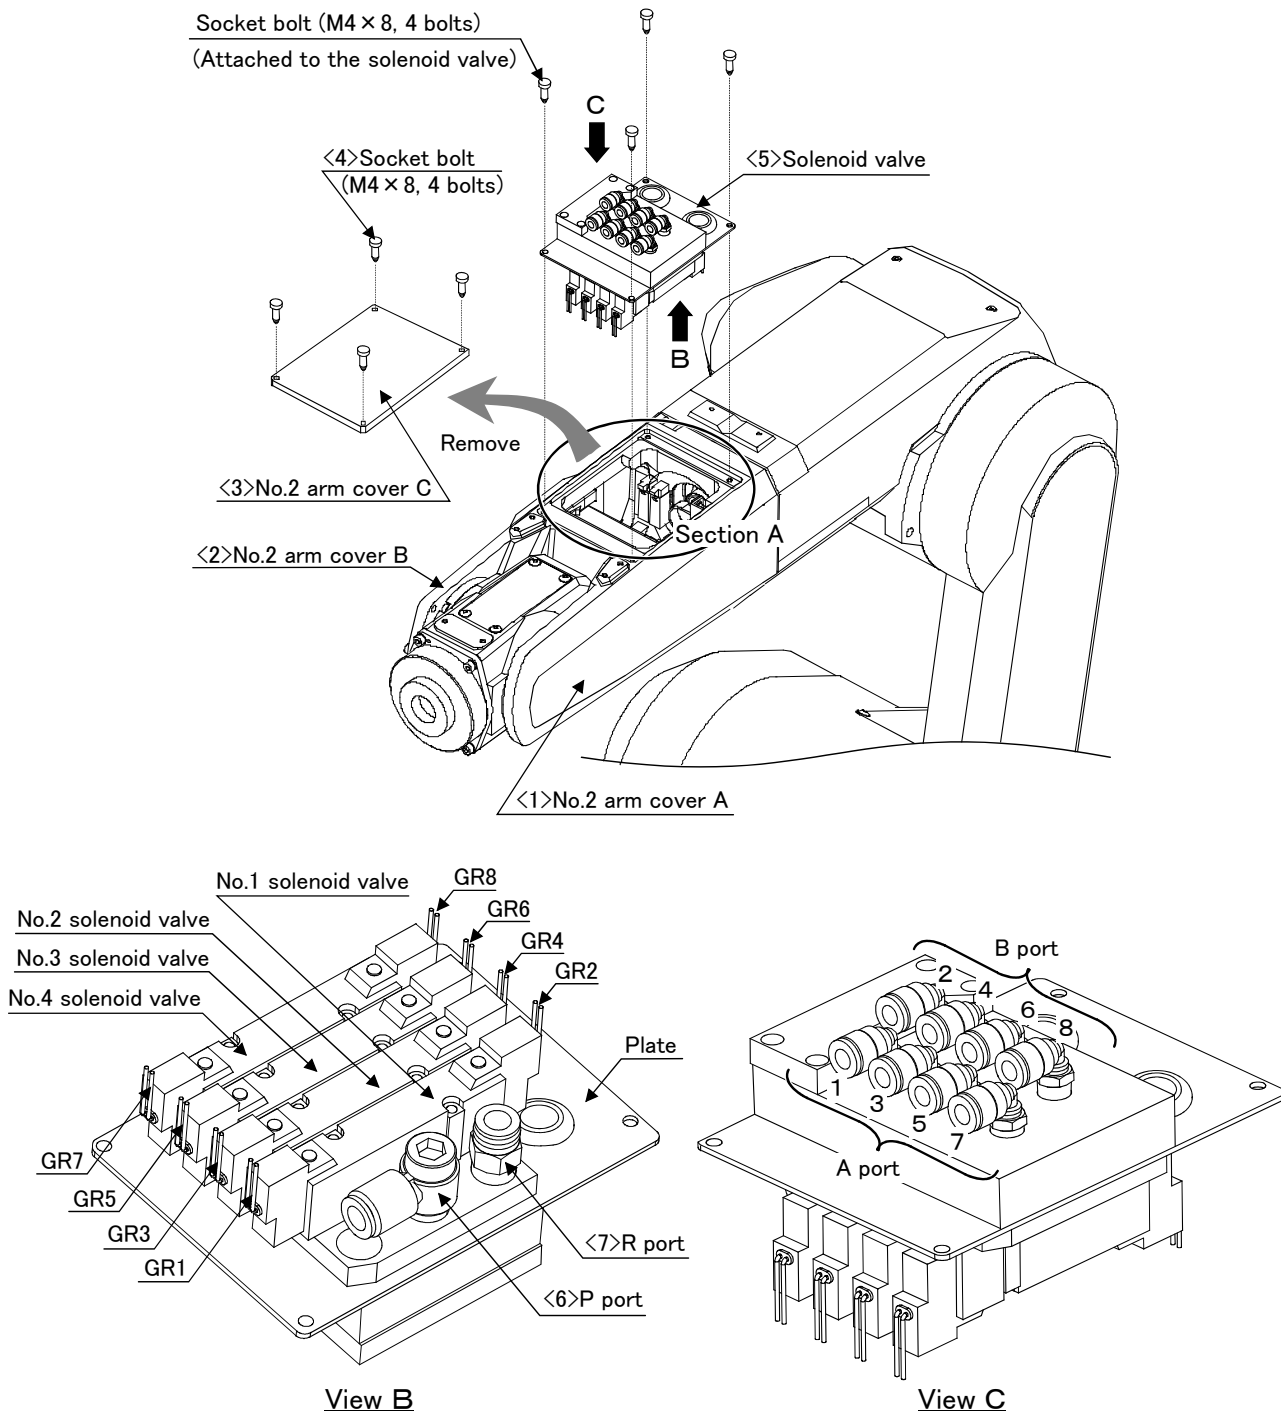
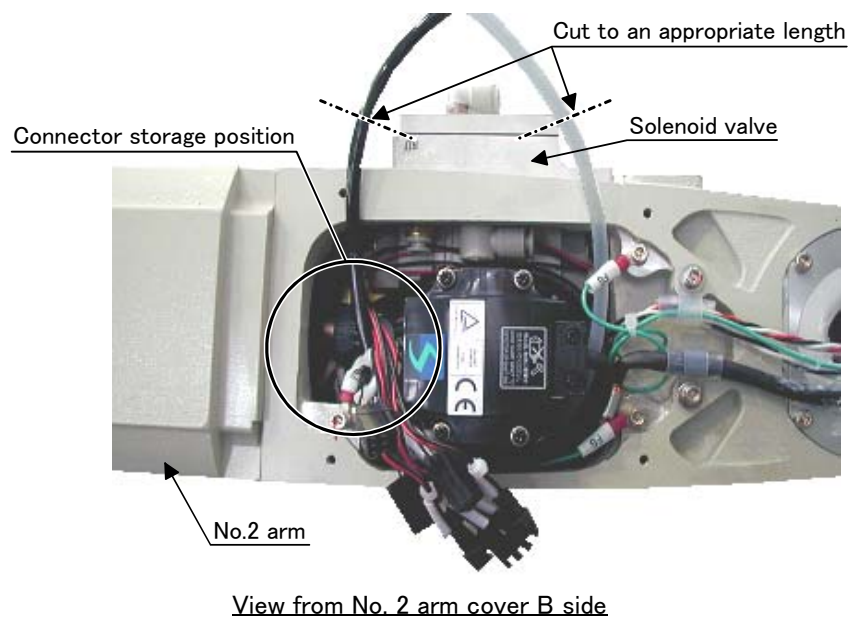
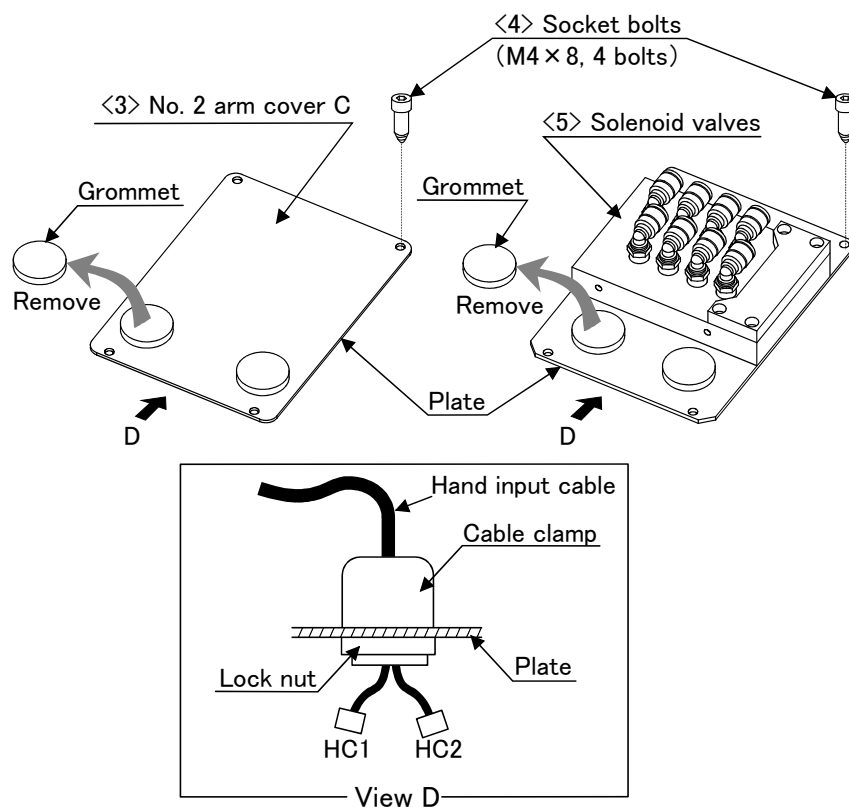

Fig.3-1 : Solenoid valve installation procedures
Fig.3-2 : Solenoid valve installation diagram details 1
Fig.3-4 : Installing the hand input cable
Fig. 3-1 and Fig. 3-2 shows the solenoid valve installation procedures and the solenoid valve connector connection procedures. The installation procedures are as follow. This work must be carried out with the controller power turned OFF.
- 2) If you are not using the spare line (ADD: stored in a coil) in section A shown in Fig. 3-1, remove it. The spare line is connected to a connector inside section A.
- 3) Connect the connectors of "GR1" and "GR2" stored in section A to the connectors of "GR1" and "GR2" coming out of the solenoid valves. Store the connectors near the location marked with ○ shown in Fig. 3-2.
The procedure for installing the hand input cable is as follows. Conduct work by referring to "Fig. 3-1 Solenoid valve installation procedures" on page 44 and "Fig. 3-4 Installing the hand input cable" on page 47 below.
- 6) Connect the connectors of "HC1" and "HC2" stored in section A shown in Fig. 3-1 to "HC1" and "HC2" of the hand input cable.
- 7) Mount the No. 2 arm cover C <3> or the solenoid valves <5> to section A shown in Fig. 3-1. When mounting, be careful not to damage the sponge sealing material attached to the opening of section A. If it is damaged, the protection performance may be lowered.
- 6) Connect the connectors of “GR1” and “GR2” stored in section A shown in Fig. 3-1 to “GR1” and “GR2” of the hand output cable.
- 7) Mount the No. 2 arm cover C <3> to section A shown in Fig. 3-1. When mounting, be careful not to damage the sponge sealing material attached to the opening of section A. If it is damaged, the protection performance may be lowered.